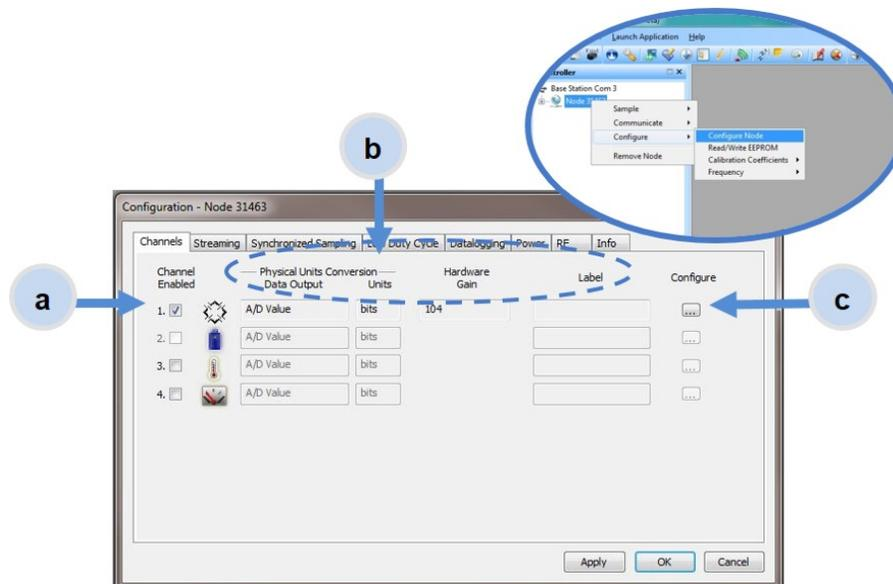

Figure 10 - Node Channels Menu
- a. **Channel Enabled:** indicates the sensor channel number. The check box is used to enable the channel and select it for sampling. The icon next to the check box describes the channel type inherent to the node being used. (*Figure 10 - Node Channels Menu*)
2. To enter the channel configuration menu, select the Configure button as shown in Figure 10 - Node Channels Menu. The channel configuration menu options change depending on the sensor type selected.